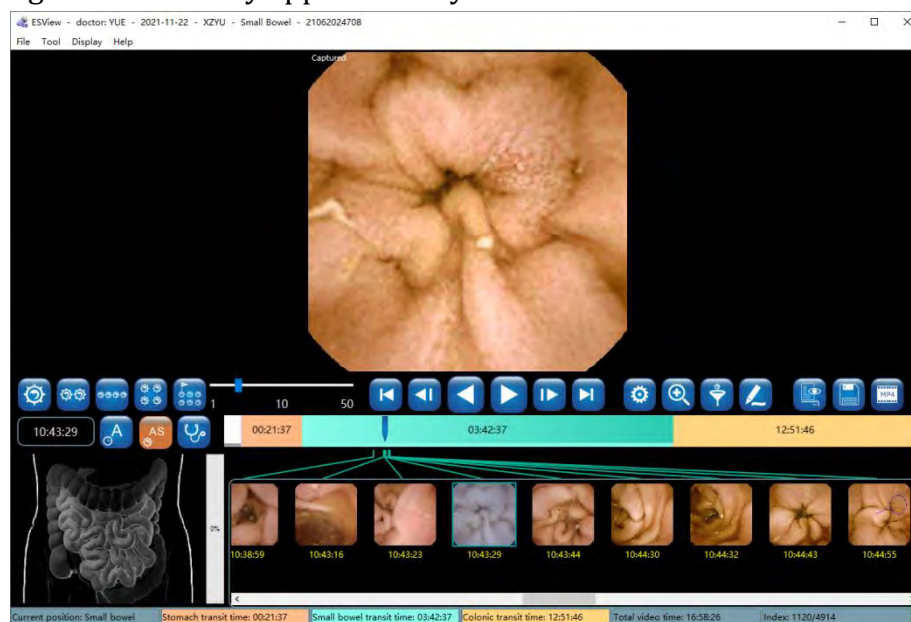

Figure 4-38: Similarity Browsing Mode
1. Click , when the button icon changes to , the similarity browsing mode will be activated (Figure 4-38). In this mode, the software displays only one image for all the adjacent similar images, reducing number of images to be browsed. Experiments show that the